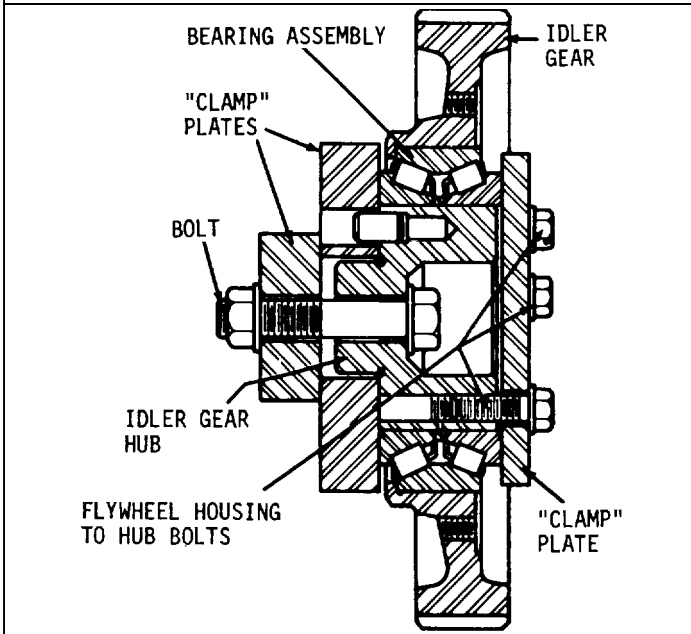
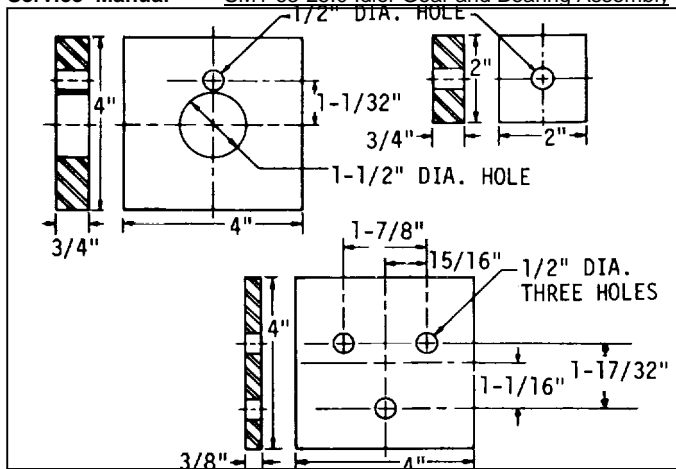
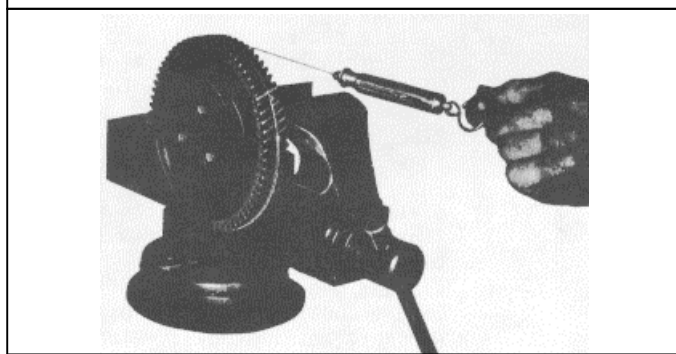

Fig. 5
Fig. 6
Fig. 7
- (1) Mount the idler gear assembly on the engine.
- (2) Install the center bolt and washer through the gear hub and thread it into the cylinder block. Tighten the bolt to 80-90 ft/lb. (108-122 N.m) torque.
- (3) Place the steel plate (lower plate shown in Fig. 6) against the hub and bearing. Insert three 3/8"-16 bolts through the plate and thread them into the hub. Tighten the bolts to 25-40 ft/lb. (34-54 Nm) torque.
- (4) Tie one end of a piece of lintless 1/8" cord around a 1/8" round piece of wood (or soft metal stock). Place the wood between two of the gear teeth and wrap the cord around the periphery of the gear several times. Attach the other end of the cord to a spring scale J 8129 (Fig. 7). Maintain a straight steady pull on the cord and scale, 90° to the axis of the hub, and note the pull, in pounds and ounces, required to start the gear rotating. Make several checks to obtain an average reading. If the pull is within 1/2 lb. minimum to 4 lbs. maximum, and does not fluctuate more than 2 lbs. 11 oz., the idler gear and bearing assembly is satisfactory for use.
If the crankshaft and camshaft gears are mounted on the engine, a suitable fixture, which may be held in a vise, can be made as shown in Fig. 5. Three plates (shown in Fig. 6), a 1/2"-13 x 2-3/4" bolt and a plain washer are used with a 1/2"-13 nut and plain washer for mounting. One of the plates is used to take the place of the flywheel housing, and the other two plates, the cylinder block. "Engine-mounted" conditions are simulated by tightening the nut to 80-90 ft/lb. (108-122 N.m) torque and tightening the three plate-to-hub attaching bolts to 25-40 ft/lb. (34-54 N-m) torque.
- (1) Attach two of the plates (two upper plates shown in Fig. 6) to the idler gear hub with the 1/2"-13 bolt washers and nut as shown in Fig. 5. Tighten the bolt to 80-90 ft/lb. (108-122 N.m) torque.
- (2) Attach the third plate to the idler gear hub with three 3/8"-16 bolts. Tighten the bolts to 25-40 ft/lb. (34-54 N.m) torque.
- (3) Clamp the idler gear assembly and fixture in a vise (Fig. 7).
- (4) Attach a cord to the idler gear and spring scale and check the bearing pre-load as outlined in step 4 of the previous method.